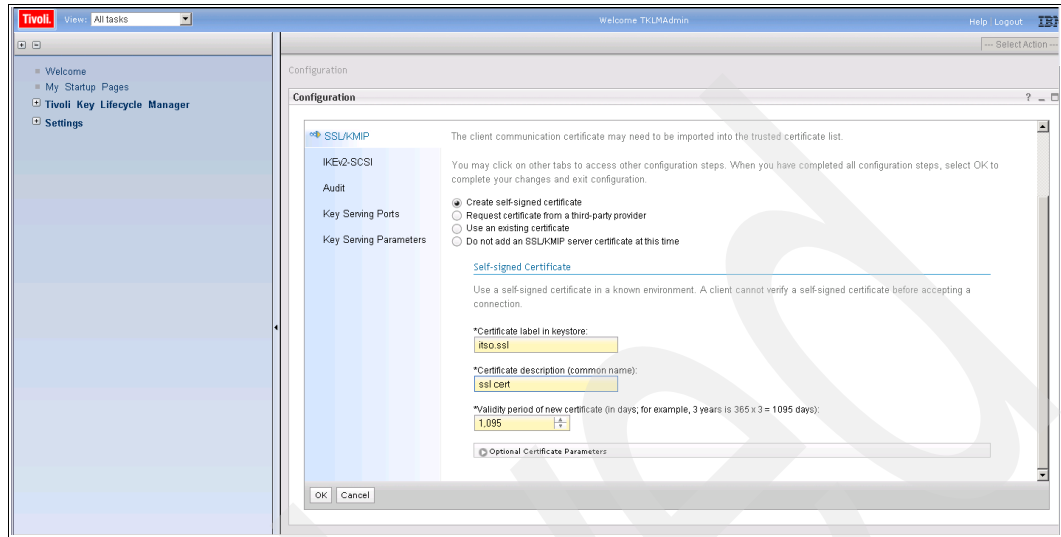

Figure 6-26 TKLM\_v2\_Certificate
26. If you select **Create self-signed certificate**, a scroll down page prompts you to insert the Certificate label and description data, as shown in Figure 6-26. Make the appropriate entries and click **OK**.